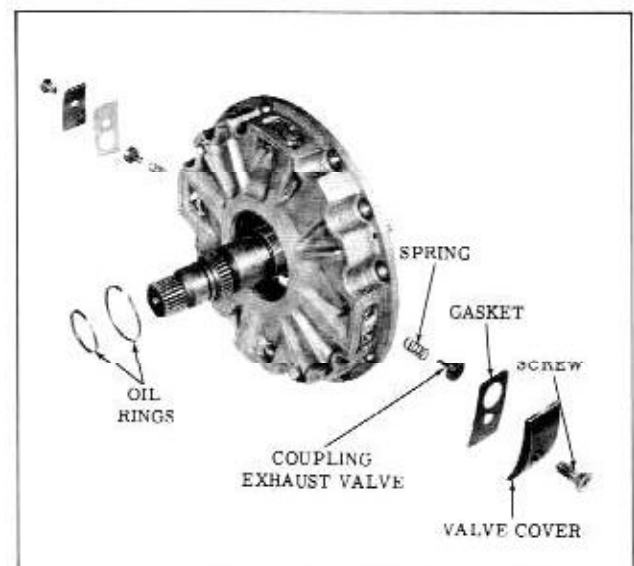

Fig. 3-67 Torus Cover Assembly
3. Remove the two exhaust valves and springs. (Fig. 3-67)